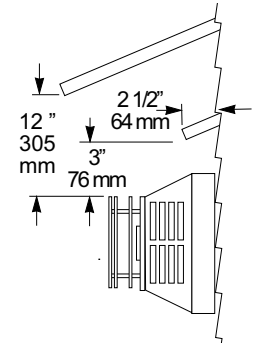

Figure 13. Termination Clearance to overhangs.
- **A horizontal termination cap must maintain a 3" clearance to any overhead combustible projections that are 2 1/2" or less.** It must also maintain a 12" clearance from projections that exceed 2 1/2". See fig. 13.